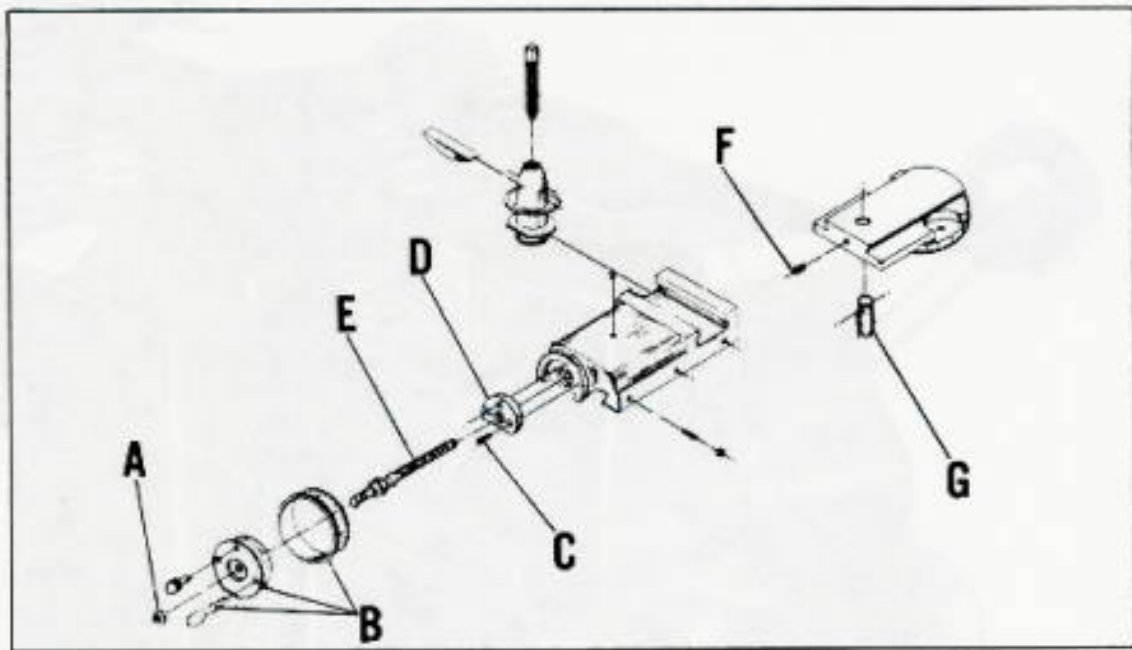

Fig. 43.
1. Remove nut (A) Fig. 43, and handwheel assembly (B).
2. Remove three screws (C) and thrust bushing (D) Fig. 43. Then remove the compound slide feed screw (E) by turning it counterclockwise.
3. Loosen set screw (F) and remove the feed nut (G) Fig. 43.
4. When reassembling make sure the compound feed screw (E) runs freely through the feed nut (G) before tightening set screw (F) Fig. 43.